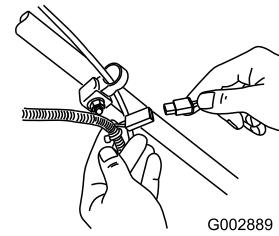

Figure 21
1. Connect the charger to the wire harness located below the ignition key (Figure 21).